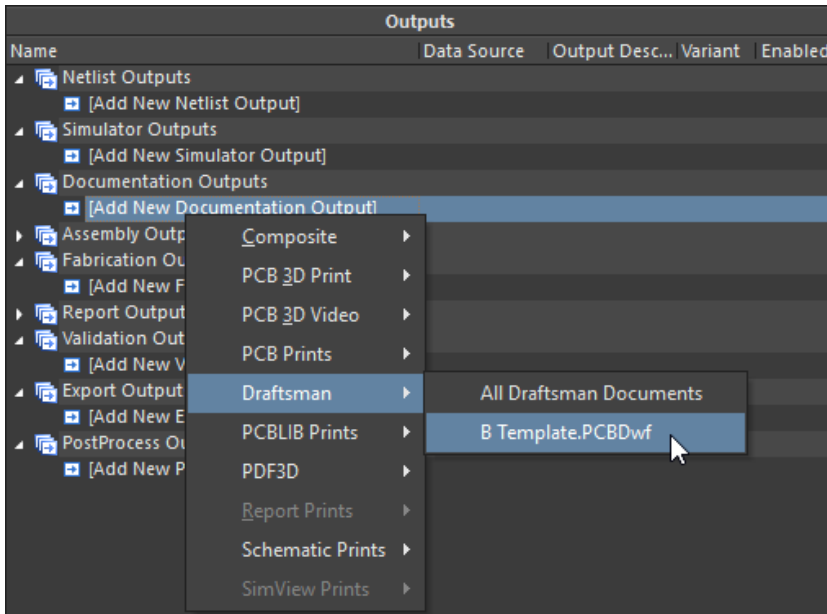

Figure 23. Adding the Draftsman document to the OutJob
71. Add a new Draftsman output to the OutJob by clicking **Add New Documentation Output** under the *Documentation Outputs* section of the OutJob. Select **B Template.PCBDwf**, Figure 23.